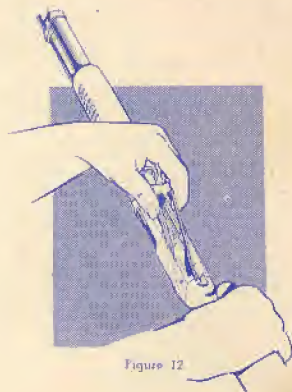

Figure 12
2. **CARRIER:**—Move fore-end fully to the rear, grasp front and sides of carrier as in Figure 12, flat side up, slightly squeeze carrier sides, engage hinge ends in proper holes in receiver. Raise front end of the carrier, then lower to rest over breech bolt.